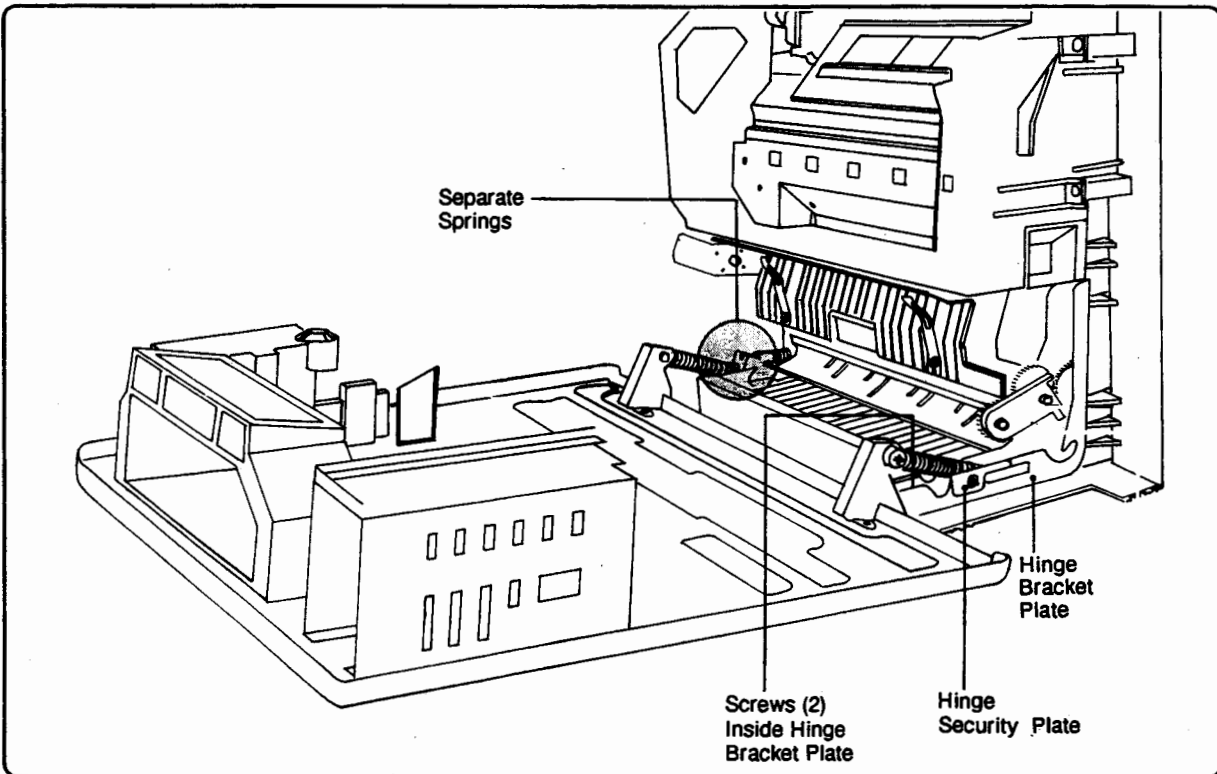
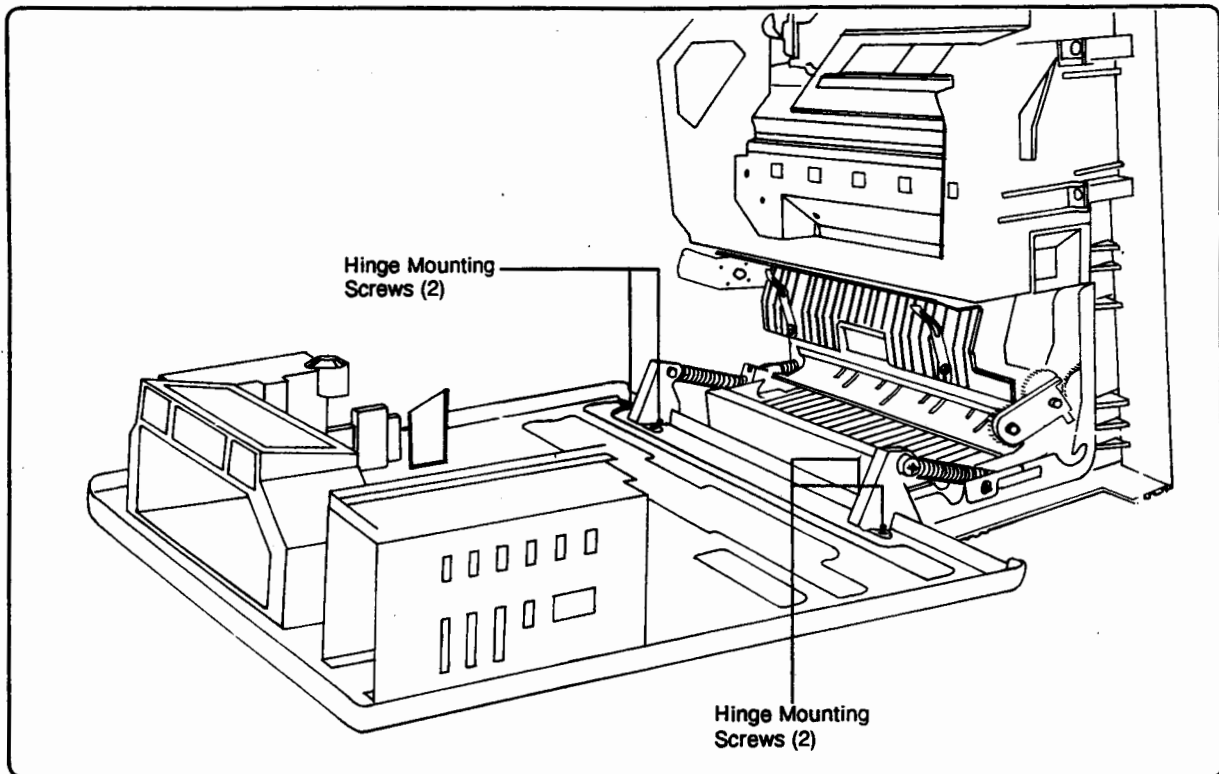

Figure 6-39. Top Cover Assembly Removal, Method One
Figure 6-40. Top Cover Assembly Removal, Method Two
Two methods are possible for removing the Top Cover Assembly: *Method One* should be used if the Hinge Assemblies or Hinge Bracket Plates (see Figure 6-39 and Figure 6-40) must be replaced; *Method Two* should be used in all other cases.
2. Remove the Hinge Security Plates (one screw on each hinge plate) and separate the two coil springs on the left side (see Figure 6-39). Swing the Hinge Springs out of the way.
2. If the Hinge Assemblies are still attached to the Top Cover Assembly (see Figure 6-39), remove them (4 screws, 2 on each Hinge Assembly).